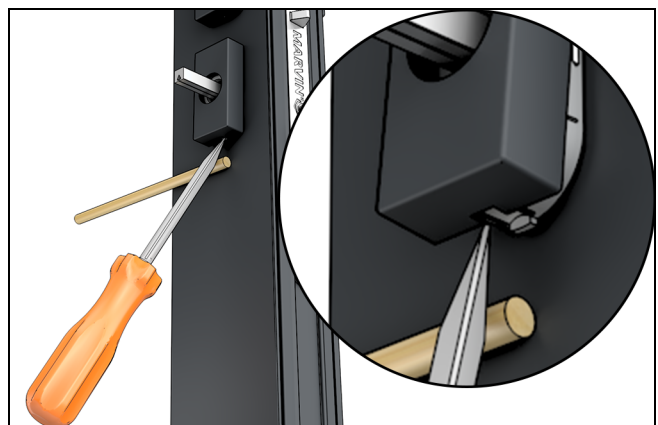

Figure 5
13. **To remove the handle covers:** use a small screwdriver to pry the cover off, releasing the cover from the tabs on the base. See Figure 5. Use a wooden dowel or other non marking tool to gain more leverage.